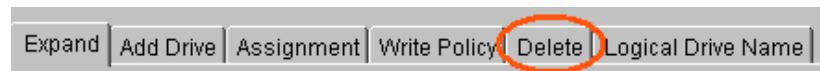

Figure 8-34: Select Delete
Step 3. After selecting the “*Operation*” tab, an “*Expand Logical Drive*” window will appear in the content panel. The tabs shown in *Figure 8-34* can be seen at the top of the “*Expand Logical Drive*” window. From these tabs select delete.